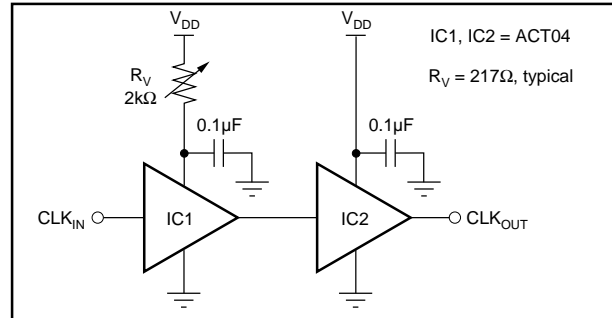

FIGURE 4. Clock Skew Circuit.
- For most applications, the clock duty should be set to 50%. However, for applications requiring no missing codes, a slight skew in the duty cycle will improve DNL performance for conversion rates >35MHz and input frequencies <2MHz (see Timing Diagram) in the SOIC package. For the best performance in the SSOP package, the clock should be skewed under all input frequencies with conversion rates >35MHz. A possible method for skewing the 50% duty cycle source is shown in Figure 4.